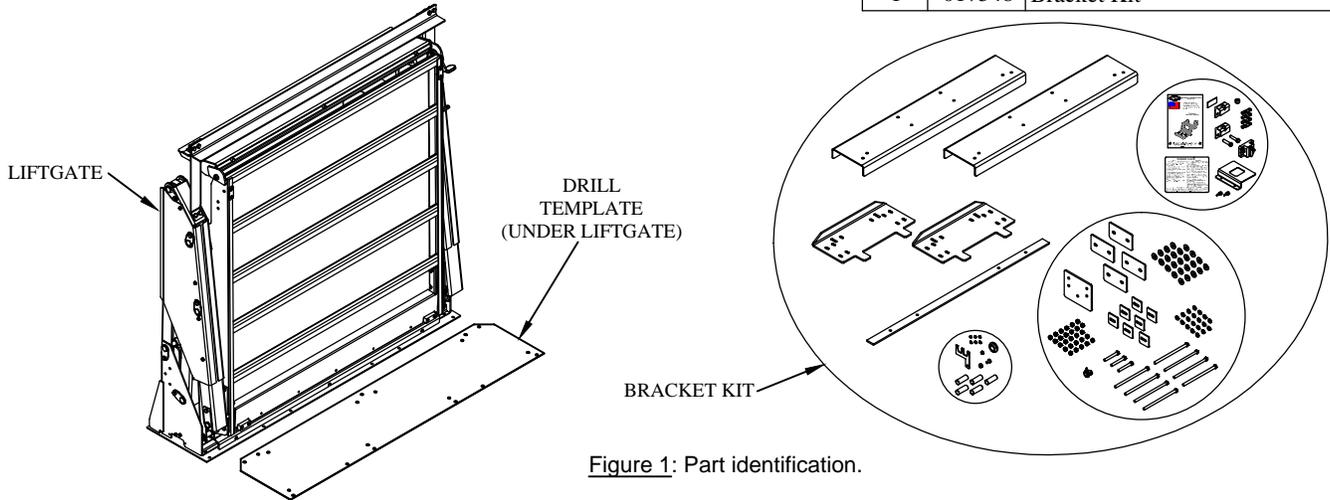

Figure 1: Part identification.
2. **Verify** mounting kit, liftgate, and other components (Figure 1 and Table 1).
12. Remove the drill template from the pallet (Figure 1).